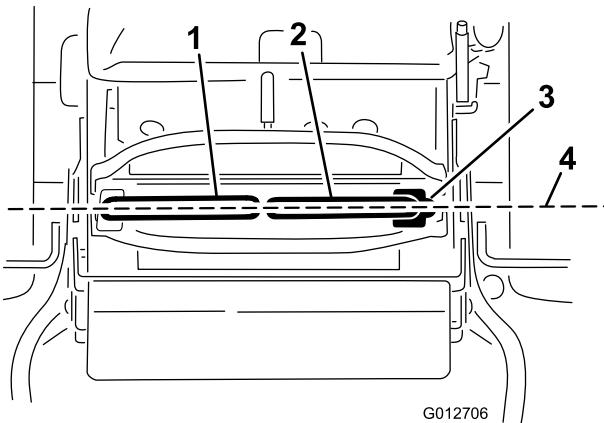

Figure 71
Important: Ensure the tracking of the mower is correct after adjusting the motion-control levers. Adjusting the tracking and aligning the motion-control levers front to back is the same procedure (Figure 71).
1. After the horizontal alignment is finished, check the front to back alignment by slightly pushing the control levers forward to take up any slack in the linkage for the control levers (Figure 71).